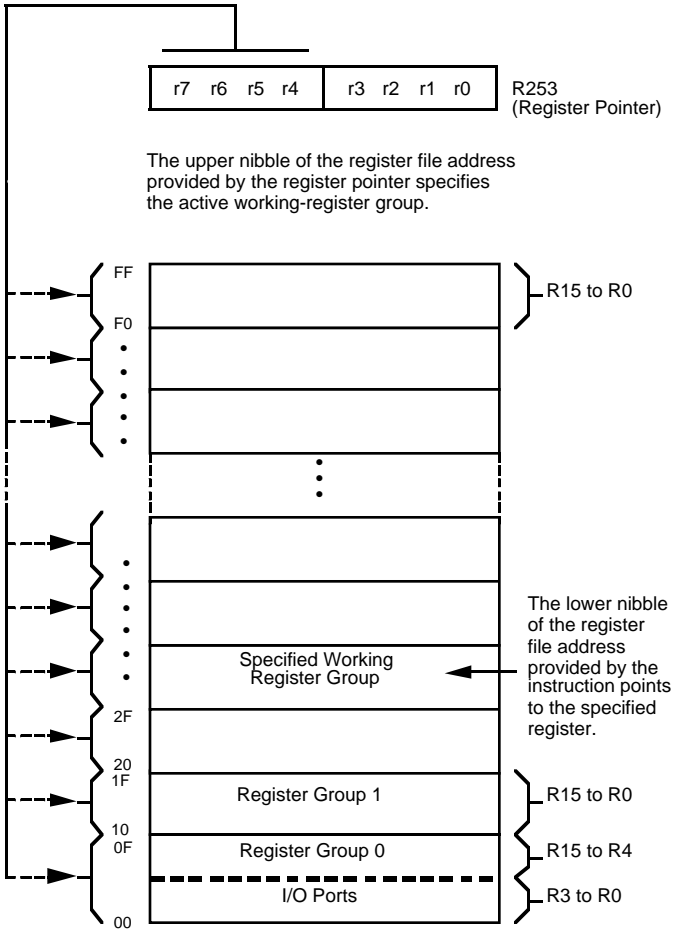

Figure 11. Register Pointer
**Pointer** (Figure 11). In the 4-bit mode, the register file is divided into nine working-register groups, each occupying 16 continuous locations. The Register Pointer addresses the starting location of the active working-register group.